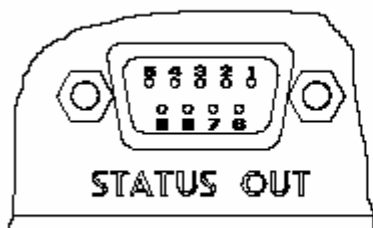

Figure 1
**12. STATUS OUT:** Microphone status outputs are available at this point via a DB-9 connector (See Figure 1 for pin configuration). The STATUS OUT provides an open collector output for each microphone channel. The STATUS OUT is low (transistor conducting) when the corresponding